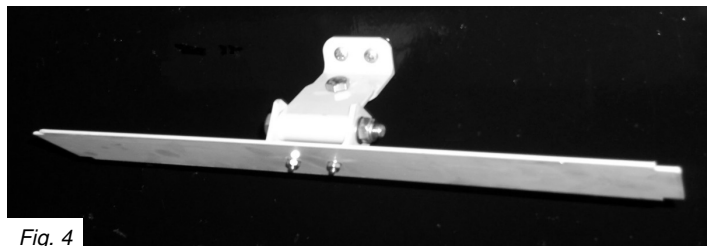

Fig. 4
4. The back plate should now have the heater body removed from it (Fig. 4) and can be placed on a safe, flat work surface to proceed with the lamp change.